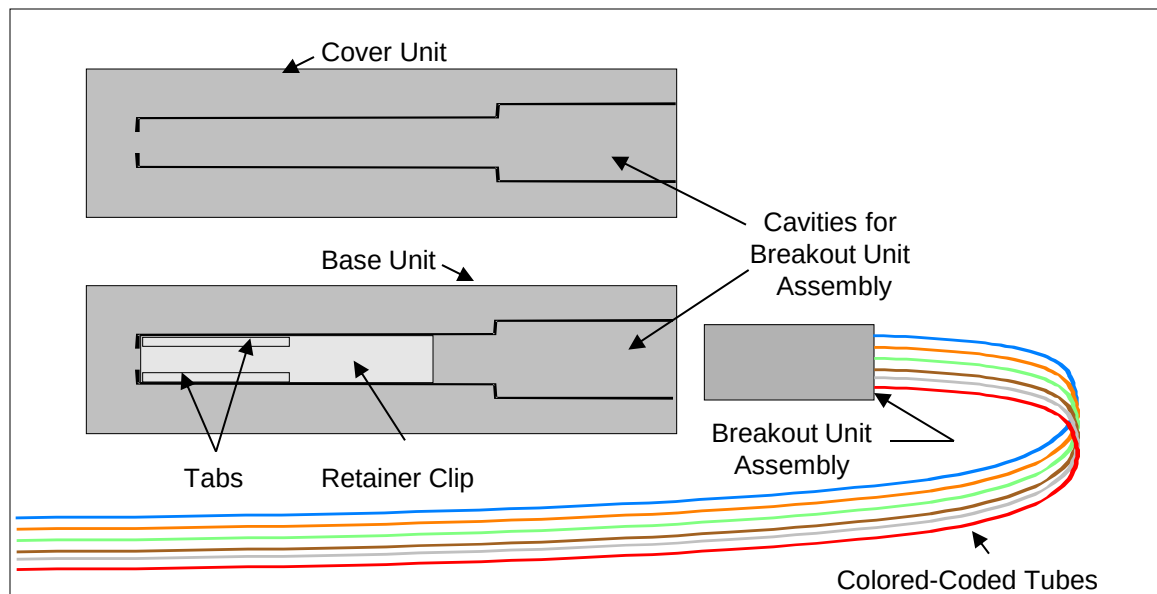

Figure 3
6.1 Field Termination Kits consist of a Base Unit, Cover Unit, Breakout Unit Assembly and plastic tubing. **See Fig. 3.**